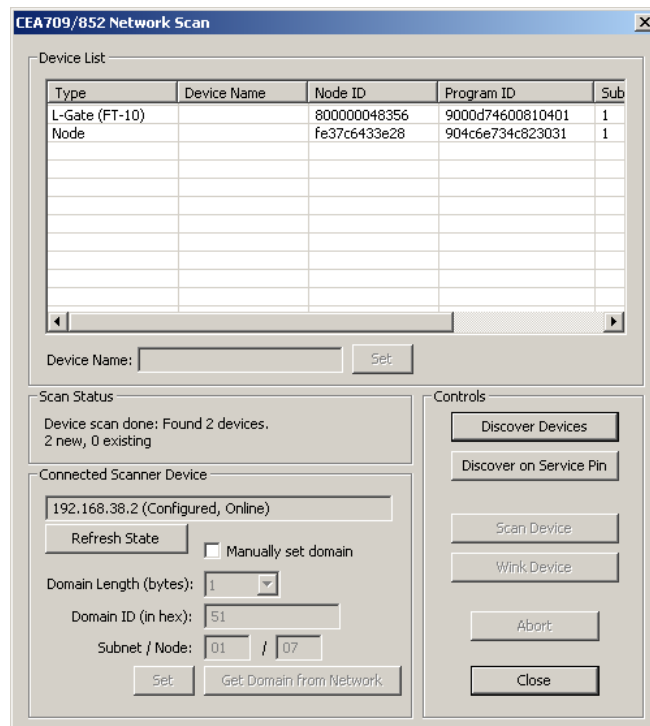

Figure 105: CEA-709 network scan dialog.
4. Right-click on that folder and select **Scan CEA709/852 Network....** This opens the CEA709/852 Network Scan dialog as shown in Figure 105.